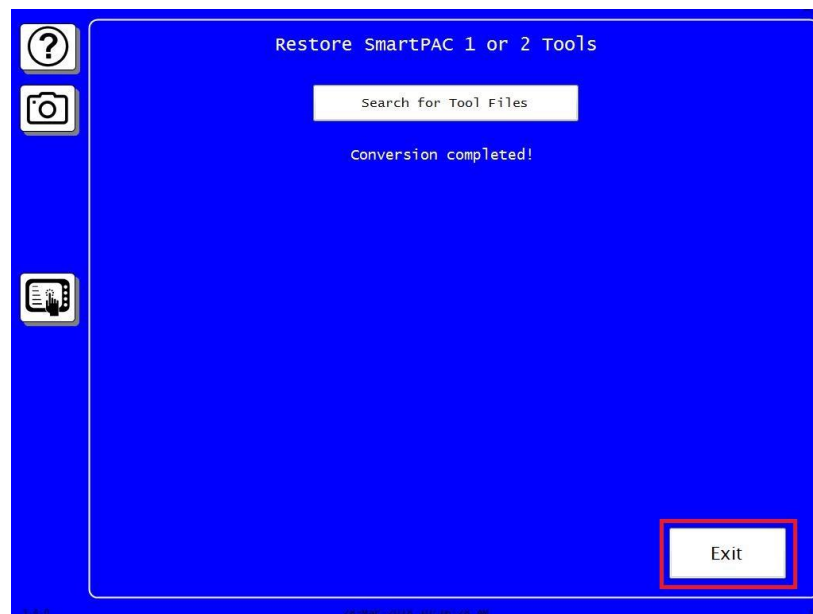

Figure 10 – Conversion completed! message
11. The conversion process and restoring of your tools to the SmartPAC PRO only takes a moment to complete. When you see the Conversion completed! message (Figure 10 below), press the Exit button. Then navigate to the Tool Manager in Program Menu and verify that the tools have been restored.